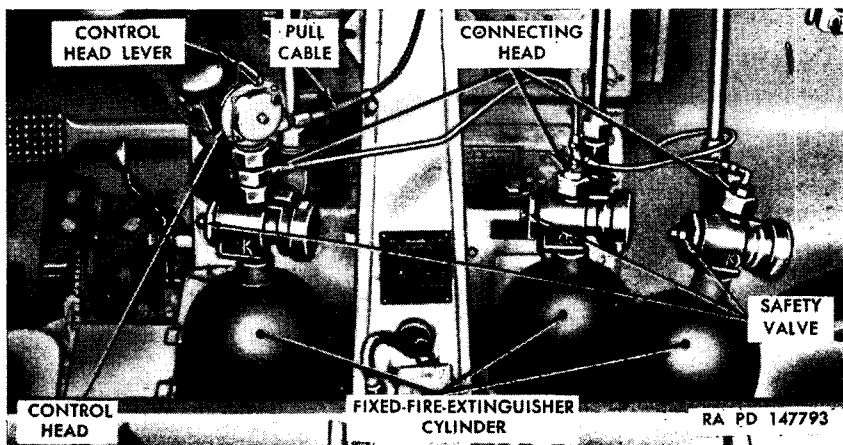
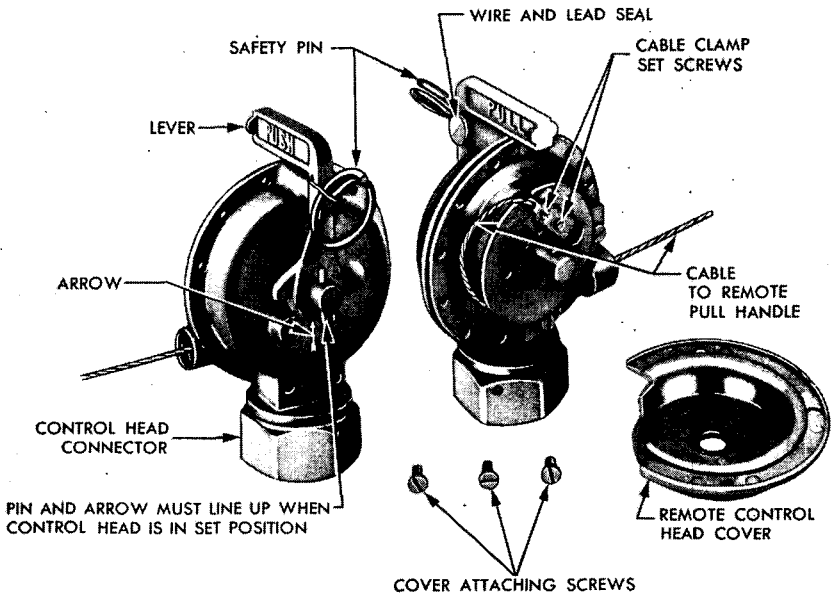

Figure 324. Fixed fire extinguisher cylinders.
Figure 325. Fixed fire extinguisher cylinders control head.
a. **FIXED SYSTEM.** A carbon dioxide (CO₂) fixed-fire-extinguisher system is provided for smothering fires in the engine compartment. The system consists of three 10-pound cylinders, control head, extinguisher lines, discharge nozzles, and an exterior control handle and cable. The 10-pound carbon dioxide cylinders are mounted in brackets between and to the rear of the driver's seats (fig. 324). All cylinders are discharged simultaneously by operating the control head lever (fig. 325) on the left cylinder or by pulling the exterior remote control handle (fig. 75). The cylinders are connected by lines to three discharge nozzles in the engine compartment (fig. 326). Each cylinder is equipped with a safety valve (fig. 324) which automatically will discharge the gas when the pressure becomes excessive due to heat.
a. **REMOVAL** (fig. 324). Unscrew lower connector which secures control head to left cylinder and remove control head. Unscrew and remove connecting heads from all three cylinders. Pull cylinders out of support brackets and remove from vehicle.
b. **INSTALLATION** (fig. 324). Position cylinders into support brackets and screw connecting head into each cylinder. Screw control head into position on connecting head on left cylinder.
a. **REMOVAL**. Unscrew pull cable from control head on left cylinder (fig. 324). Remove pull cable from clips on column to the rear of and between the driver and assistant driver and on the hull ceiling (fig. 9). Disconnect the pull cable at the remote control handle (fig. 326). Remove pull cable.
b. **INSTALLATION**. Connect one end of pull cable to remote control handle (fig. 326). Connect other end of pull cable to control head on left fixed-fire-extinguisher cylinder (fig. 324). Secure pull cable into clips on column to the rear of and between the driver and assistant driver and to hull ceiling (fig. 9).